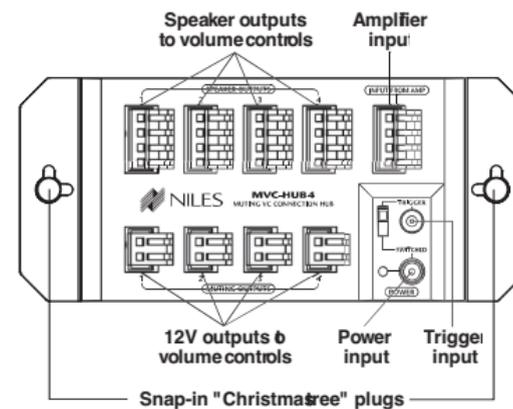

Figure 1
- Locate the connector plugs (and remove them if they are plugged in). The four-position connector plugs are for speaker wires; the two-position connector plugs are for 12V wires. See **Figure 1**